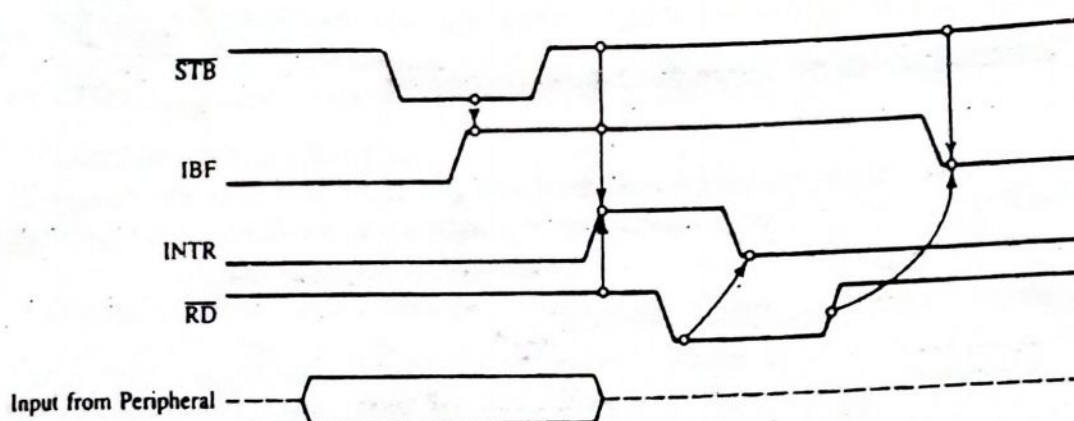

FIGURE 15.9
- **STB** (Strobe Input): This signal (active low) is generated by a peripheral device to indicate that it has transmitted a byte of data. The 8255A, in response to **STB**, generates **IBF** and **INTR**, as shown in Figure 15.9.
- **IBF** (Input Buffer Full): This signal is an acknowledgment by the 8255A to indicate that the input latch has received the data byte. This is reset when the MPU reads the data (Figure 15.9).
- **INTR** (Interrupt Request): This is an output signal that may be used to interrupt the MPU. This signal is generated if **STB**, **IBF**, and **INTE** (Internal flip-flop) are all at logic 1. This is reset by the falling edge of the **RD** signal (Figure 15.9).